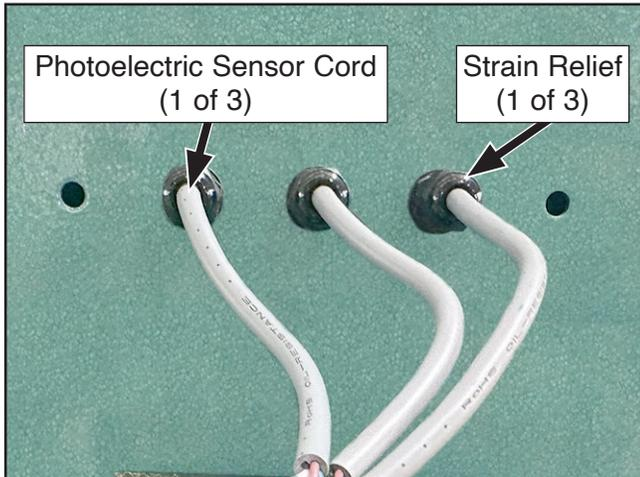

Figure 54. Photoelectric sensor cords secured to rear face of machine body with strain reliefs.
48. Route photoelectric sensor cords through (3) holes in rear face of machine body, then secure with (3) M10-1.5 strain reliefs, as shown in **Figure 54**.